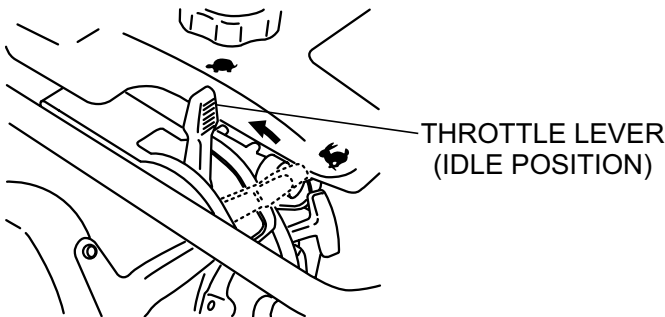
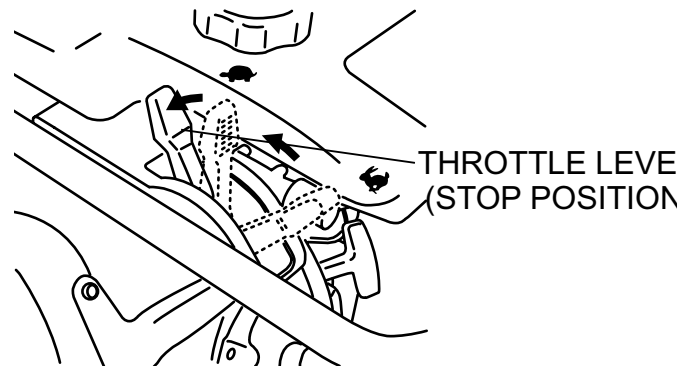

Figure 9. Throttle Lever (Idle Position)
Figure 15. Throttle Lever (Stop Position)
1. Slide the throttle lever from the stop to the idle position (☛) (Figure 9). This opens the fuel cock and the engine electrical circuit is turned on automatically.
- To stop the tamping action, move throttle lever quickly from the **START** (👉) position to the **IDLE** (👈) position (Figure 9).
- Move throttle lever quickly from the **START** (👉) position to the **IDLE** (👈) position (Figure 9) and run the engine for three minutes at low speed. After the engine **cools**, move the throttle lever to the **STOP** position (Figure 15). The engine will stop and the fuel cock is automatically closed.